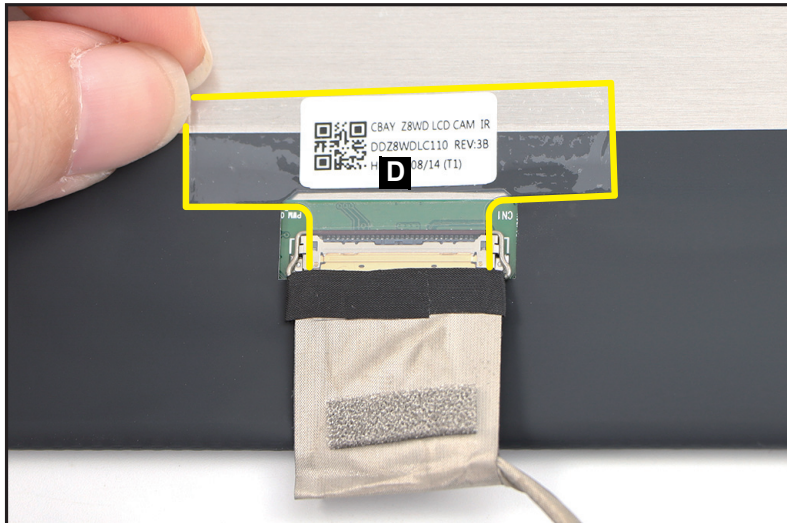

Figure 1-70. LCD Panel Removal
3. Carefully turn the LCD panel over so that the display panel is facing down on a flat surface. Then detach the mylar tape (D) securing the LCD cable to the LCD panel (Figure 1-70).